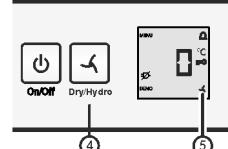

Fig. 3
- ▶ Setting **hydro**: Press the dry/ hydro Fig. 3 (4) button until the  symbol appears. Release the button.
- ▷ The dry/hydro Fig. 3 (5) symbol lights up.
- ▶ Setting **dry**: Press the dry/ hydro Fig. 3 (4) button until the  symbol goes out. Release the button.